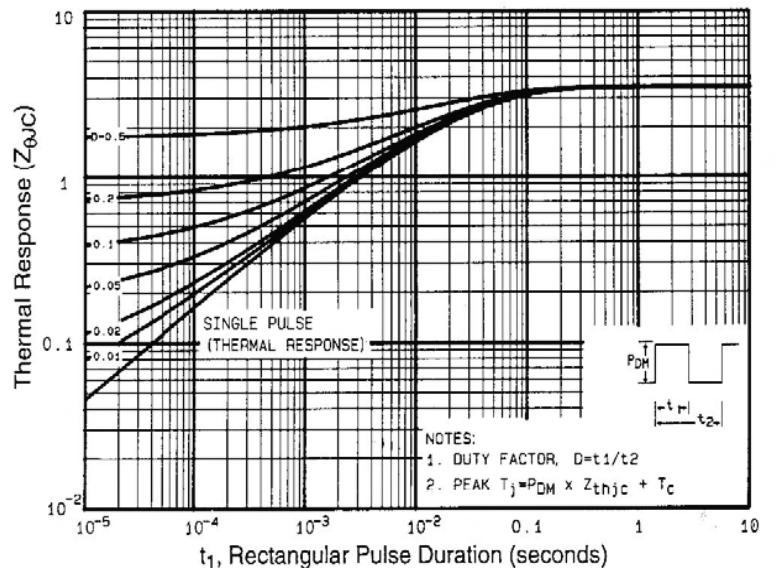

Fig. 11 - Maximum Effective Transient Thermal Impedance, Junction-to-Case
a. Repetitive rating; pulse width limited by maximum junction temperature (see fig. 11).